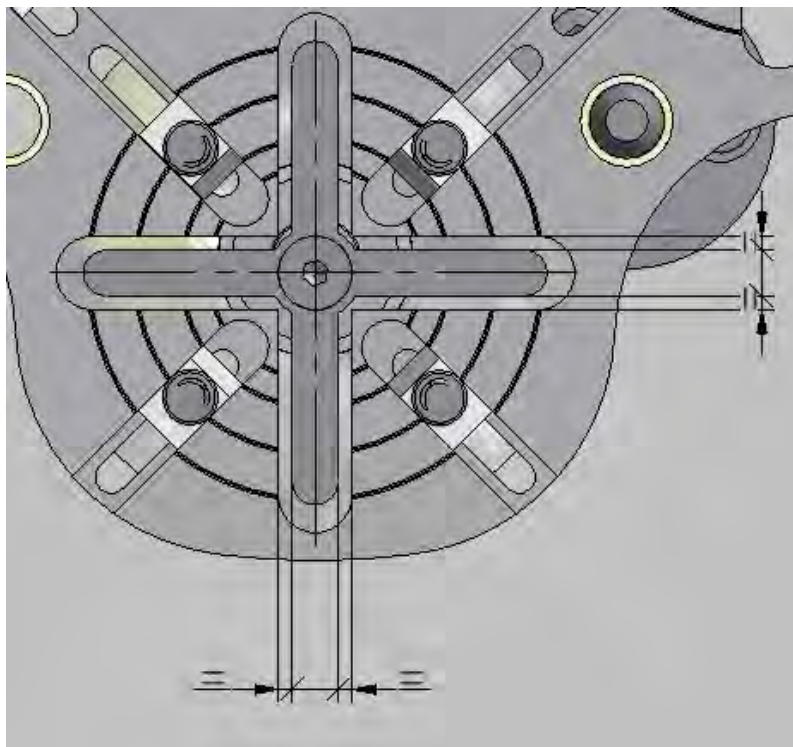

Fig.12
27.4. Set the draft shield (26) in relation to the weighing pan (22) so that clearance between the arms of the pan and reel milling was symmetrical. (Fig.12)
27.7. If there is such a need, undo six M3 screws (27) and set a draft shield respectively to a weighing pan as it is described in point 27.4. Keep repeating the action until complete rotation of the plate (37) is performed. Correctly set draft shield in relation to a weighing pan gives symmetrical clearance between arm of a pan and plate walls milling for each 90° turn of a plate, like in figure 12.